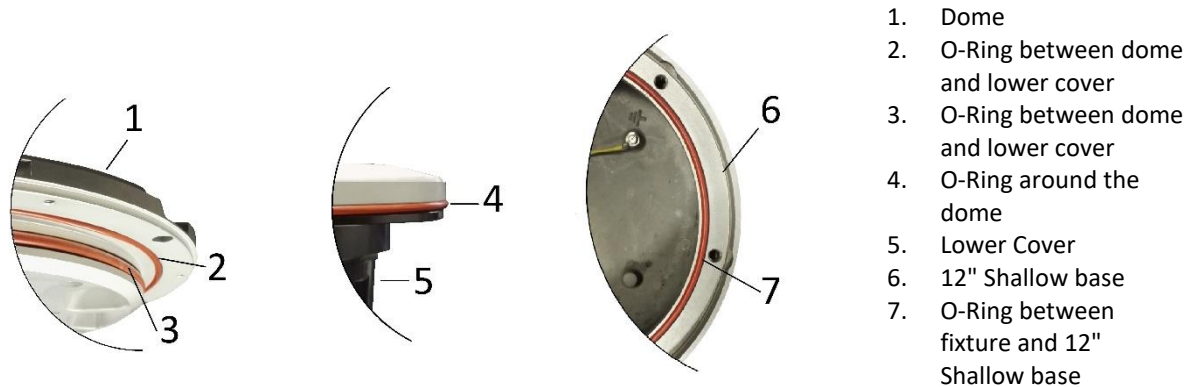

Figure 23– Fixture Gaskets
- two O-Ring between dome and lower cover (Figure 23- n°2 and 3);
- O-Ring around the dome (Figure 23- n°3);
- O-Ring between fixture and 12 inch shallow base (Figure 23- n°7);